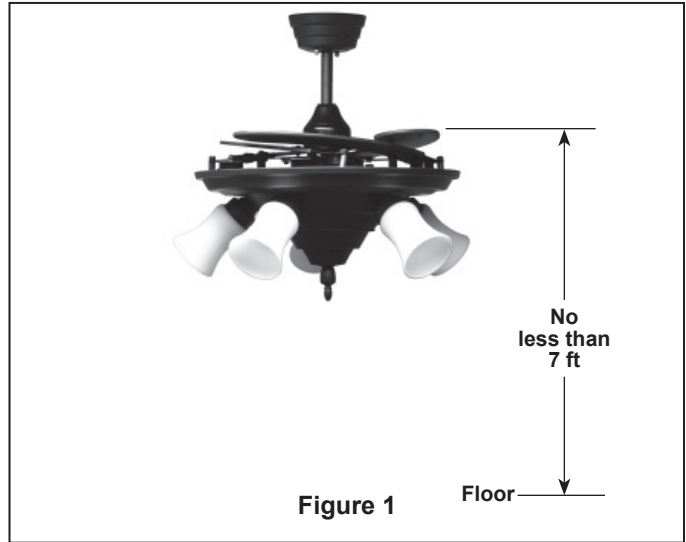

Figure 1
NOTE: If you are uncertain of part description, refer to exploded view illustration. (Figure 1, page 13)
Your new ceiling fan will require a grounded electrical supply line of 120 volts AC, 60 Hz, 15 amp circuit. The outlet box must be securely anchored and capable of withstanding a load of at least 22.7 kgs (50 lbs). **Figure 1** depicts different structural configurations that may be used for mounting the outlet box.
2. Remove the Hanger Ball by loosening the setscrew in the Hanger Ball until the ball falls freely down the Downrod. (Figure 1) Remove the Pin from the Downrod, then remove the Hanger Ball. Retain the Pin and Hanger Ball for reinstallation in Step 8.
The fan must be hung with at least 7' of clearance from floor to blades (Figure 1)